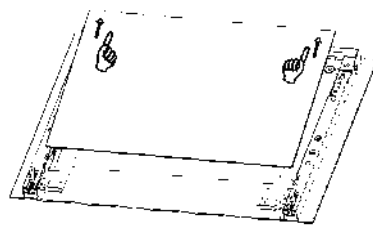

Figure 10
2. To sideling extract the middle glass and finish disassembly, as shown in figure 10.